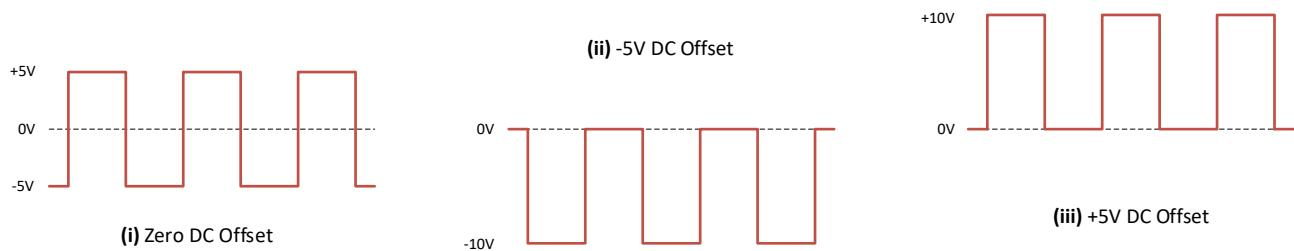

Figure 6.0: Square-wave waveforms showing effect of adding DC-Offset
2. Turn ON the Function Generator. For the input AC voltage source V_s of the circuit, set the Function Generator to a **Square-Wave** signal with the peak-voltage amplitude, $V_p = 5V$ (that is, $\pm 5V$ around **0V** reference) as shown in **Figure 6.0 (i)**. Set the frequency, $f = 1$ Hz. (Suggest start with $V_p = 3 V$)
5. Use the DC-OFFSET control on the Function Generator to apply a “-5V” DC-Offset to the waveform so that it oscillates between **0V** and **-10V** as shown in **Figure 6.0 (ii)**. Observe the blinking of the LED(s) **on** and **off** once per second (**1Hz**). Record your observations in **Table 5.0** of the status and relative brightness of each LED.
6. Use the DC-OFFSET control on the Function Generator to apply a “+5V” DC-Offset to the waveform so that it oscillates between **0V** and **+10V** as shown in **Figure 6.0 (iii)**. Observe the blinking of the LED(s) **on** and **off** once per second (**1Hz**). Record your observations in **Table 5.0** of the status and relative brightness of each LED.
7. Keeping the same setting as in (6), **gradually increase the frequency** on the Function Generator to find the frequency at which the LED appears to stop blinking. The human eye will eventually be unable to perceive the flickering. Record this frequency in **Table 5.0**.